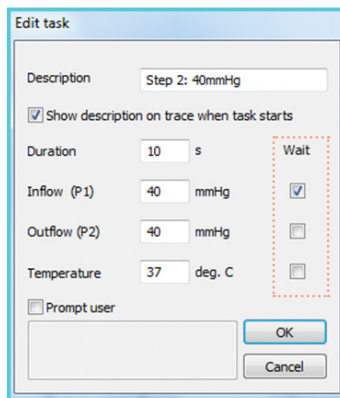

Figure 2.27 Task manager - wait box
- Wait: A tick mark in the Wait box (see figure 2.27) means that the task will continue for 10 seconds as listed and then check if the pressure at P1 has reached 40mmHg if not the task will continue until the 40mmHg has been reached.